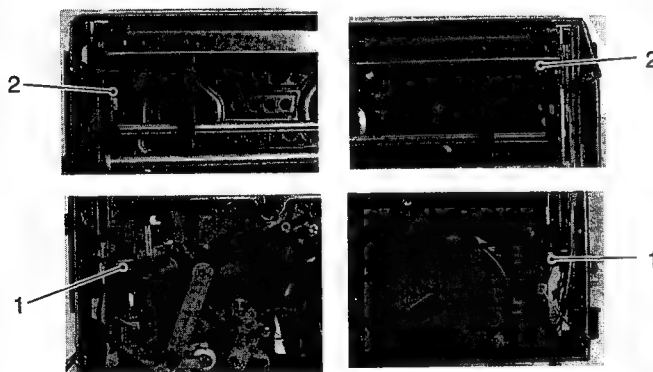

Fig. 2-6-3 (Enlarged view of section O in Fig. 2-6-2)
3. Remove the two screws 1 and loosen the two screws 2 (the screws 2 cannot be removed because they are held by a spring) (see Fig. 2-6-3). The right screw of screws 2 is located behind the door of the cassette housing assembly, so it should be loosened after pushing back the door.